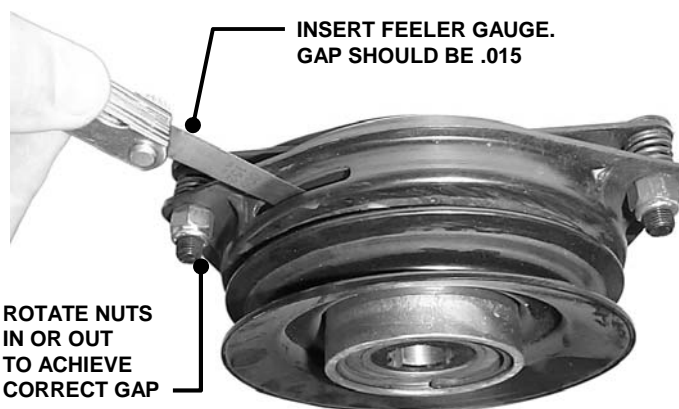

FIGURE 5.11
3. If gap is incorrect rotate nuts in or out to achieve the correct gap. See Figure 5.11.